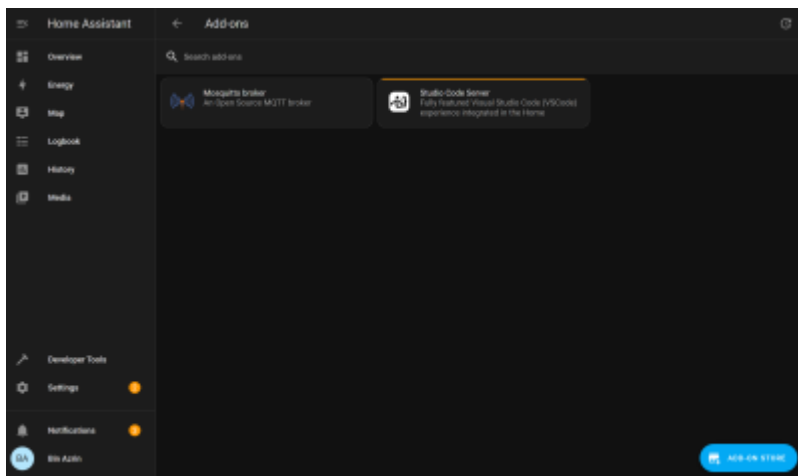

Fig 21: Downloading Mosquitto broker in Add-Ons, source: own image – Ainul Danish
- **MQTT:** When Home Assistant installed and running, proceeded with was MQTT. It acts as the medium to send data from the publisher (ESP32 cam water meter) to the subscriber (Home Assistant). This enables MQTT to send data reading of the water meter. This can be achieved by a central message broker, acting as the server that manages the communication between devices. To acquire the broker, the Mosquitto broker was downloaded in “Add-Ons” (Fig 21).